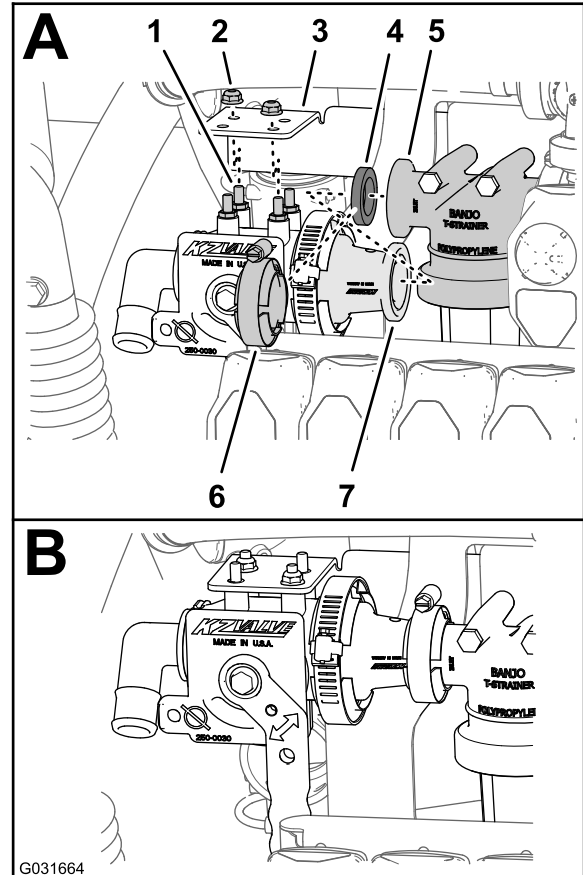

Figure 223
1. Align the gasket to the flange of the filter head (Figure 223).
2. Align the studs of the fluid-shutoff valve (Toro Part No. 130-7324) with the 4 holes in the shutoff-valve mount (Toro Part No. 131-3725-03) and the flange adapter of the fluid-shutoff valve with the flange of the filter head and gasket (Figure 223).
aligned studs of the fluid-shutoff valve as shown in Figure 223.
5. Secure the flange adapter of the fluid-shutoff valve to the flange of the filter head with the clamp (Figure 223) that you removed in 3 of Preparing to Install the Fluid-Shutoff Valve for the Eductor (page 99).